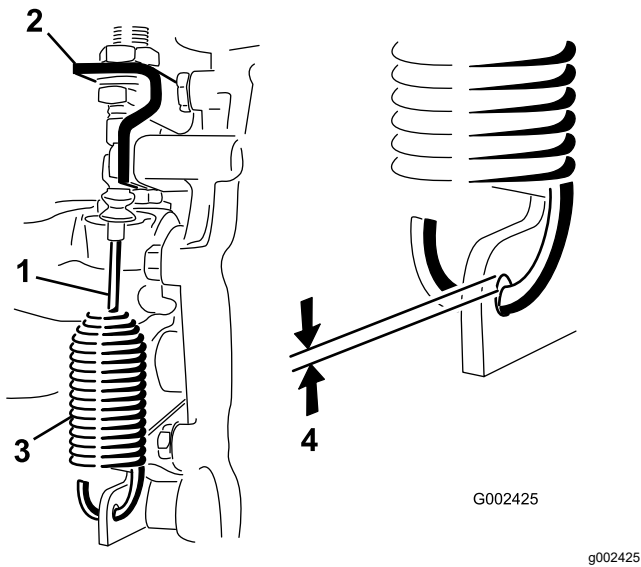

Figure 46
2. Loosen the jam nuts securing the differential-lock cable to the bracket on the transaxle (Figure 46).